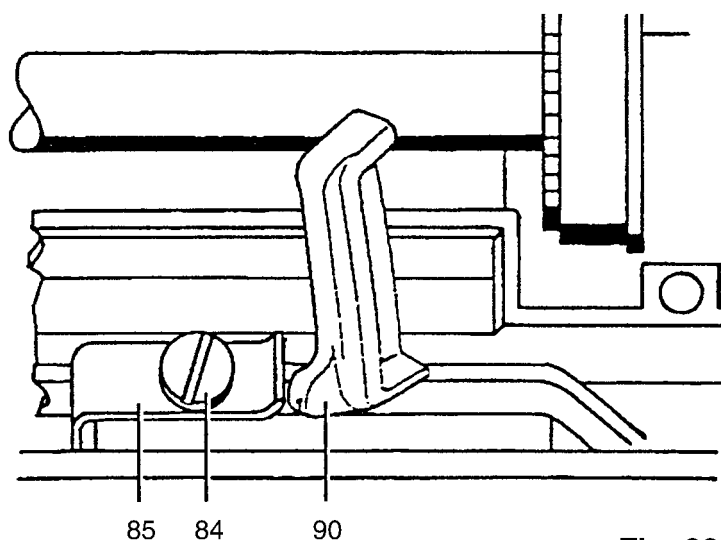

Fig. 38
- Loosen screw 84 (fig.38) and move stop 85 to the left.
- Loosen screw 84 (fig. 38).